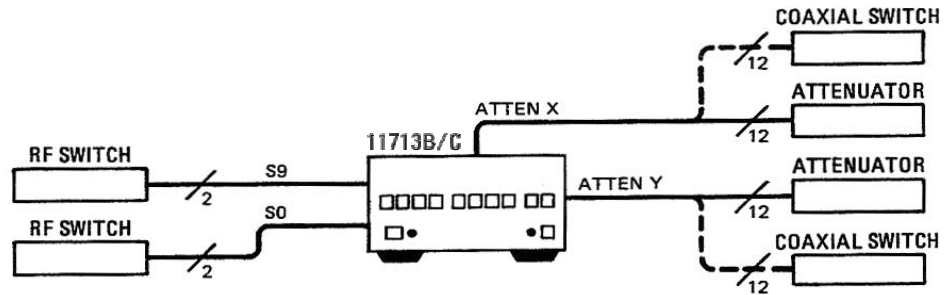

Figure 12 Switching System for Verification
- 1 Configure switching system illustrated in Figure 12 by following all steps found in Chapter 5, “Local Operations.”